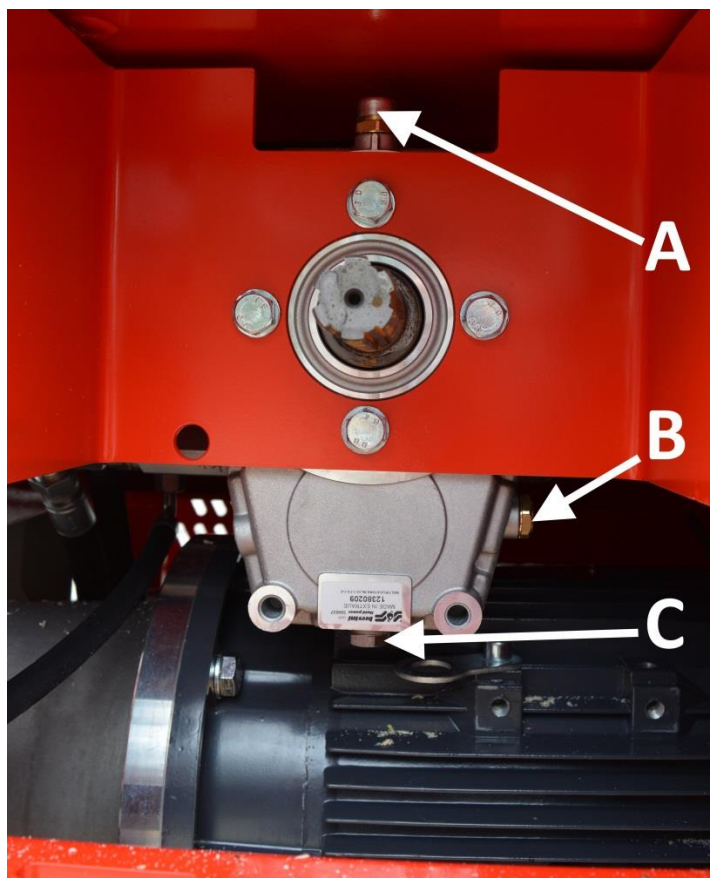

Figure 27.
2. Close plug C and open filler cap A (Figure 27).
3. Feed the new oil to the multiplier gear and close filler cap E. The required amount is 0.34 litres. You can check the oil level through oil level gauge B (Figure 27).